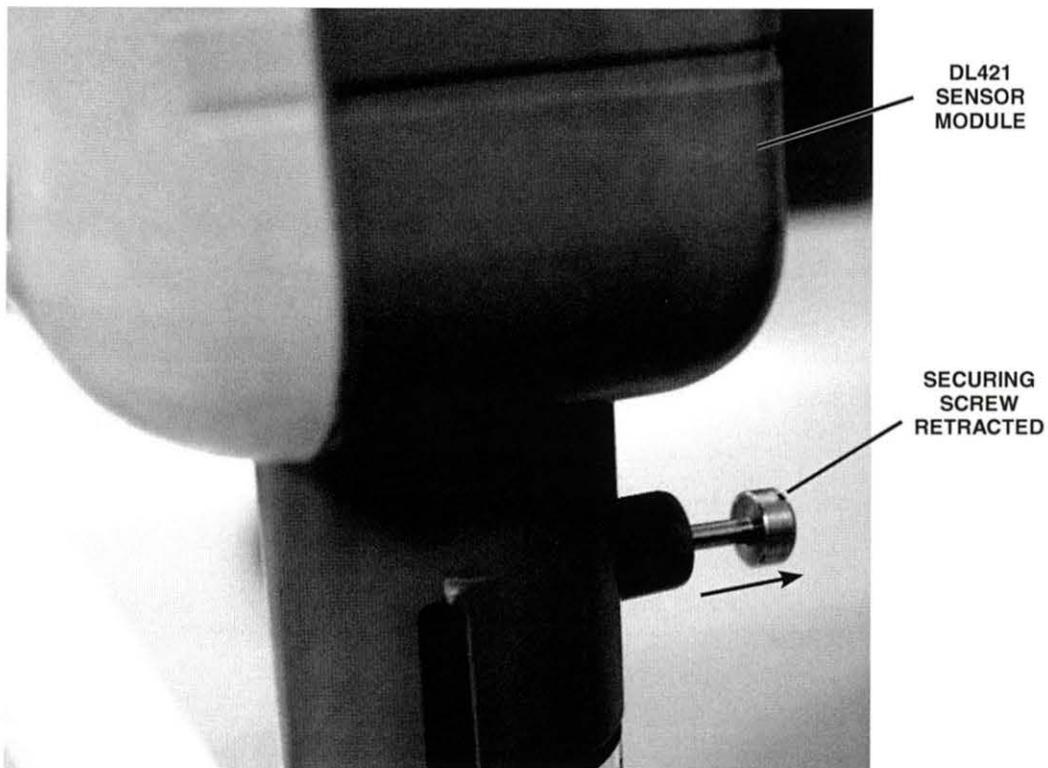

Figure 16. Securing Screw Retracted
- A. Take the DL421 Sensor Module and make sure the securing screw is retracted, as shown in figure 16.